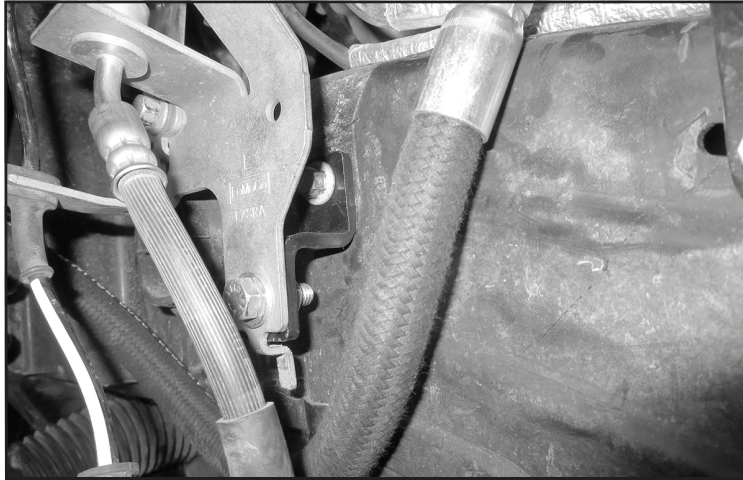

FIGURE 62 - STEP 47
47. Install FT31057 (Brake line bracket) to the frame using the factory bolt. Then, install the factory brake line bracket to the new Fabtech bracket using the supplied 5/16" bolt, nut and washers. **SEE FIGURE 62**